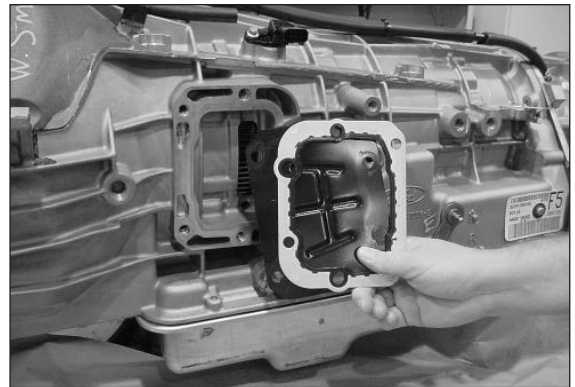

Figure 71
4. Remove the PTO aperture cover plate and gasket (**Fig. 71**).